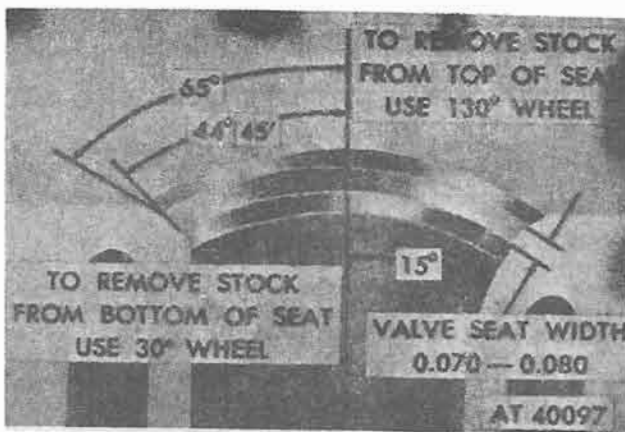

Figure 4-135. Valve seat replacing—typical.
i. *Valve Seat Width.* Measure the valve seat width with a scale or suitable instrument (para 4-50 and fig. 4-135).
b. Grind valve seat to a 45° -44° 45° angle. Remove only enough stock to clean up pits, grooves, or to correct valve seat runout. After seat has been refaced, measure seat width. Narrow the seat, if necessary, to bring it within limits (fig. 4-135).
c. If valve seat width exceeds maximum limit, remove enough stock from top edge or bottom edge of seat to reduce width to specifications. Use a 30° angle grinding wheel to remove stock from bottom of seat (raising the seat). Use a 130° angle wheel to remove stock from top of seat (lowering the seat) (fig. 4-135).